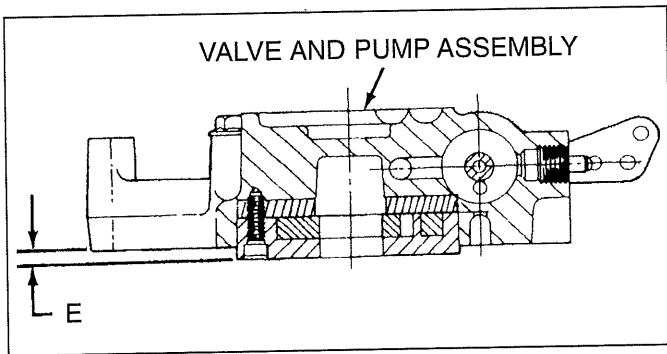

Figure 2-6: Determine Input Shaft Bearing Thickness
1. If the original valve and pump assembly (4) are to be reinstalled, return all shims to their original positions.
2. If pump assembly (202) is replaced, determine shim thickness for input shaft (28) bearing as follows:
a. Measure and record dimension E, figure 2-6 on both the new and old pumps.